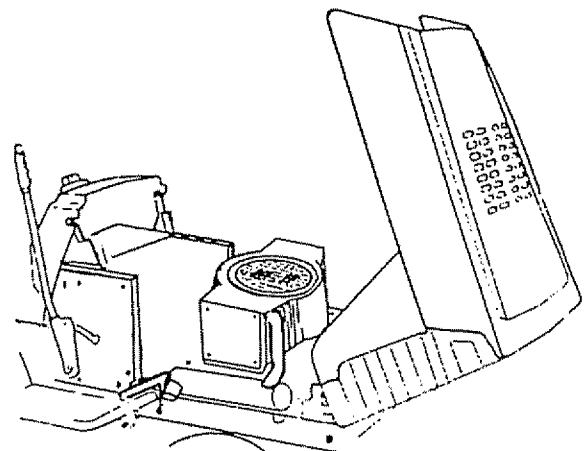

FIGURE 34
- a. Grasp hood assembly at rear and raise to full up position (Fig. 34).